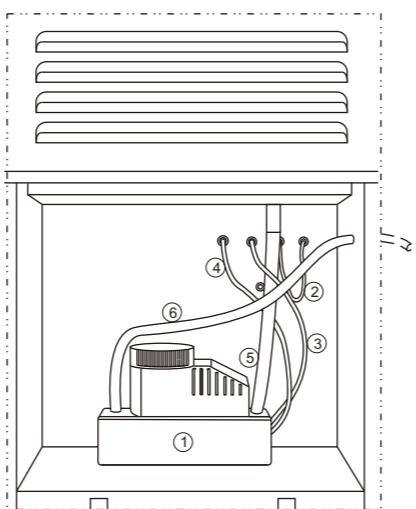

FIG.4
- Unplug the water-full alarm signal(②) wire from the middle socket and plug to the right socket to fix it.
- Connect the power cable(④, black color) of water pump(①) to the left socket.
- Plug the water-full signal wire(③, blue color) of water pump to the middle socket.
- Connect the suction(⑤) and discharge hoses(⑥) of water pump (see FIG.4)